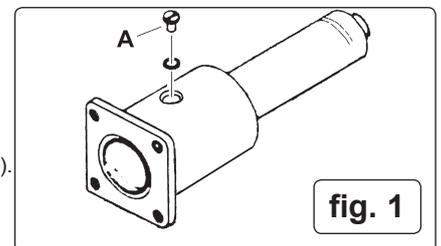

fig. 1
- 4.2.1. Remove the transit plug on the hydraulic pump and replace with the vented plug (fig.1.A) provided.
- 2) Remove vented plug (fig.1.A). Correct oil level is up to plug aperture - add hydraulic oil as necessary.